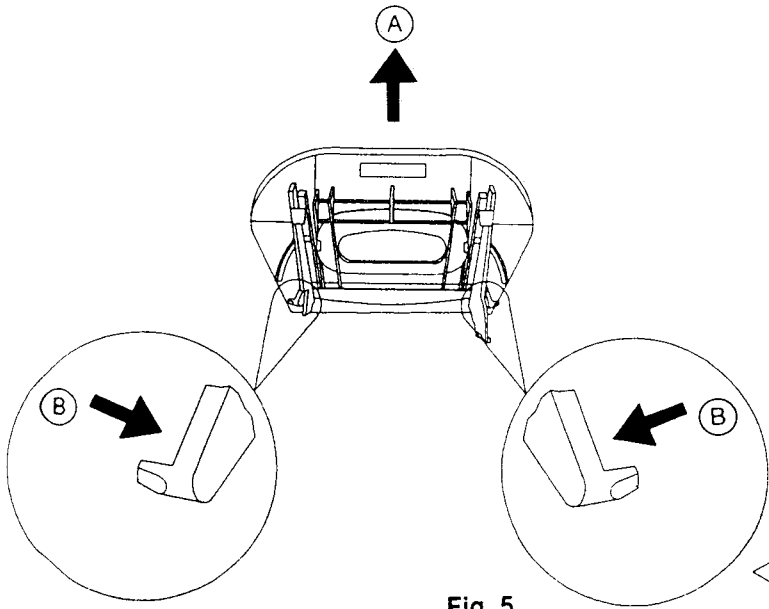

Fig. 5
5. **Removal of Cassette Door. (Fig 4 & Fig 5)**